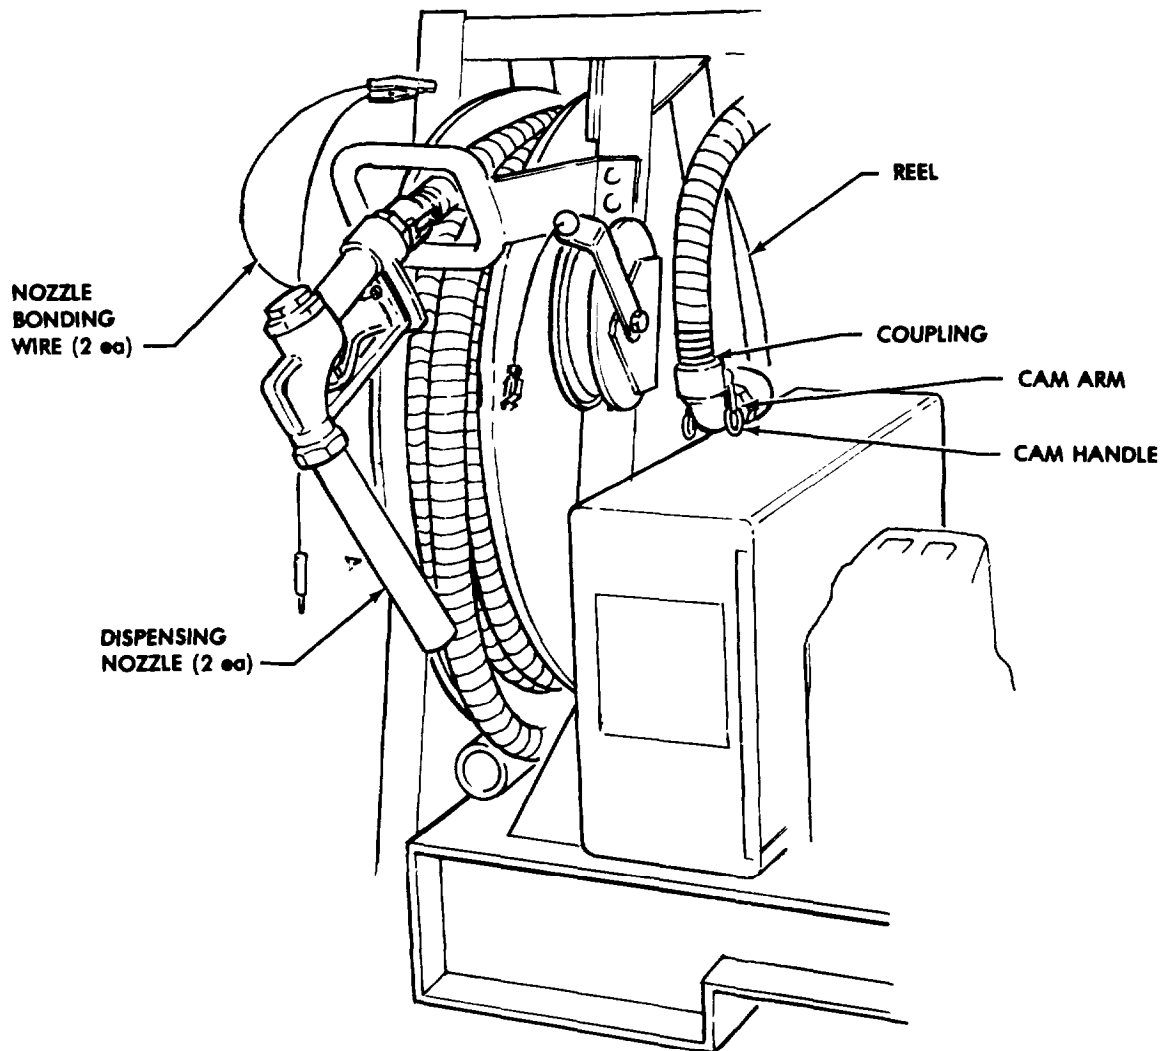

Figure 3-2. Nozzle Assembly
a. Inspect nozzle assembly (figure 3-2) for freedom of lever, or missing parts. If lever does not operate freely or if ground strap is broken or missing, replace nozzle.
(1) Removal. Open nozzle and drain fuel into suitable container. Remove nozzle by pulling out on cam arms and disconnecting coupling.
(2) Installation. Connect couplings and close cam arms.